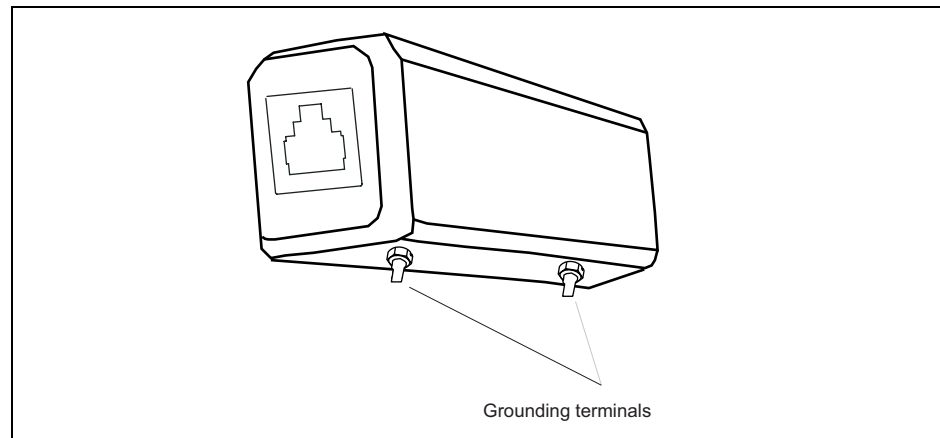

Figure 6 Data line protector
- 1 Plug the LPB communication cable running from the LPB into the end of the data line protector which is labelled as unprotected. Figure 6 illustrates the data line protector.